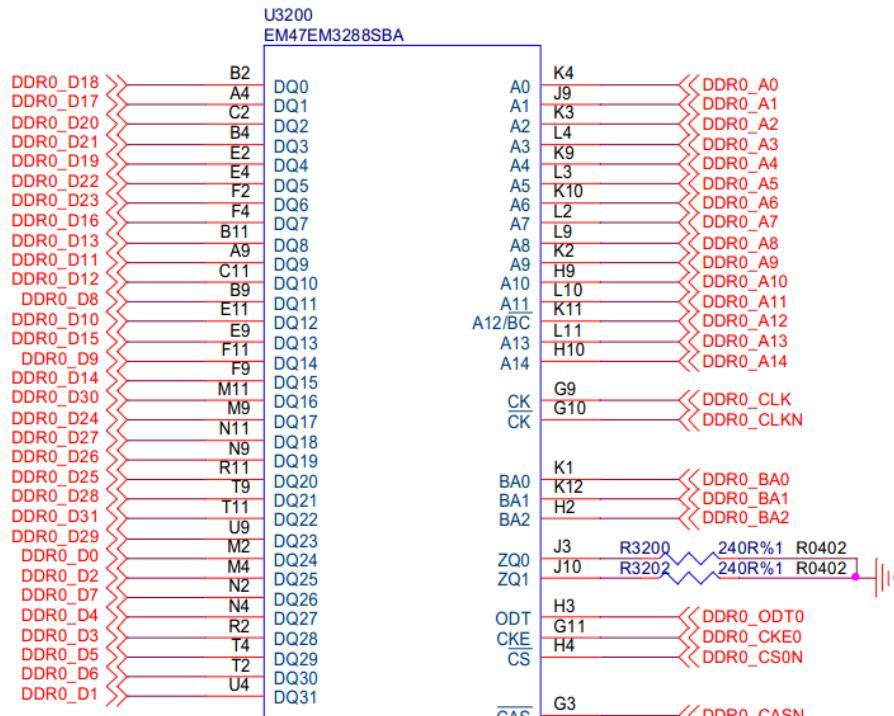

Figure 8-2
- If using DDR3, all date lines (GROUP A, B, C, D) can be exchanged in group (for example, exchange the order in DDR0\_D8~D15), or among groups (for example, exchange GROUP A to GROUP D). Exchanges all depend on practical demands, shown as Figure 8-2.